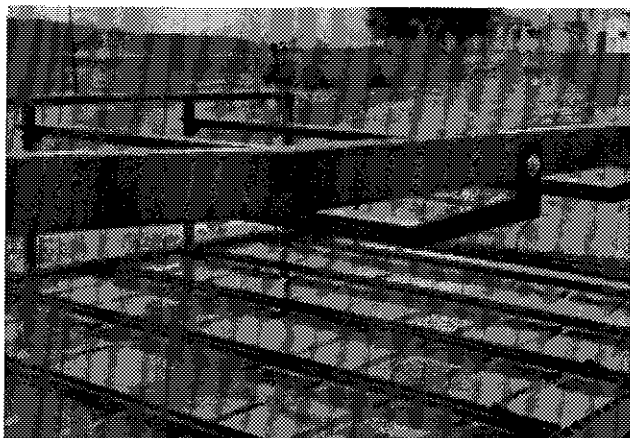
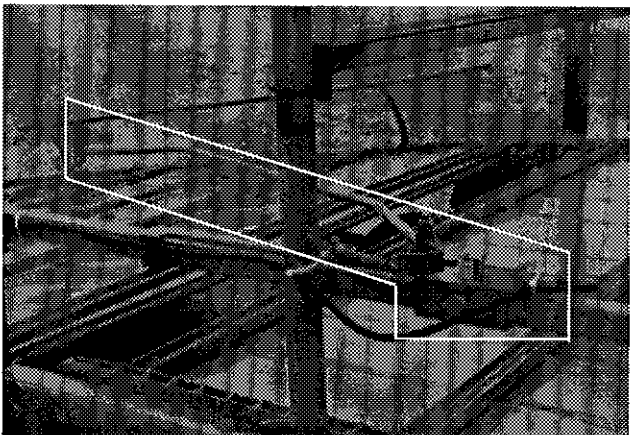

Figure 22
Figure 23
- 4) Adjust the bale stabilizer bars (Figure 22) to maintain a gap of approximately one half ( $\frac{1}{2}$ " ) to one (1" ) inch above the bales.
- 5) As previously described in the installation section, item 9 page 9, adjust the ground clearance of the inclined accumulator table to approximately two (2" ) to three (3" ) inches. It is meant to occasionally drag on the ground when operating in uneven terrain.
- 6) Adjust the position of the "full accumulator" switch actuator (Figure 23) so that when the transfer of a lot of 18 bales is made, the rear corner bale will release the switch at the right moment and stop the inclined table conveyor in proper position.